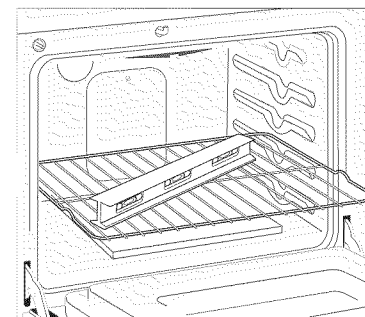

Figure 9
2. Place a level on the rack (see Figure 9). Take 2 readings with the level placed diagonally in one direction and then the other. Level the range, if necessary, by adjusting the 4 leg levelers with a wrench (see Figure 18).
3. Check if the range is level by installing an oven rack in the center of the oven and placing a level on the rack (Figure 9).